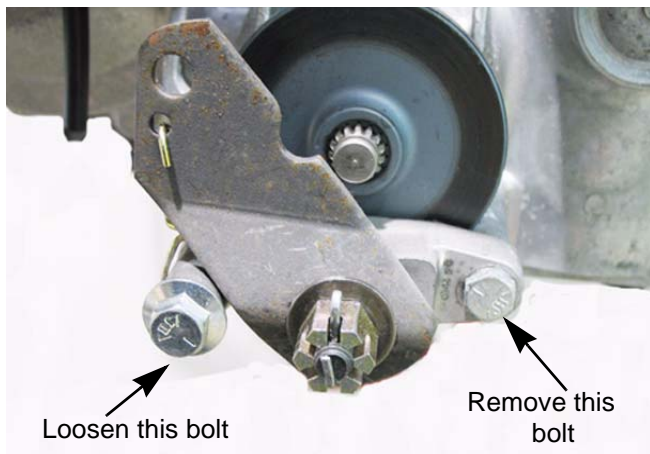

Figure 3.6
4. Loosen the rear mounting bolt. See Figure 3.6.